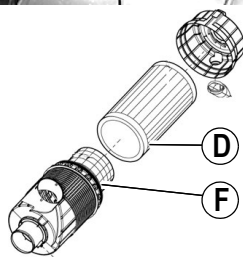

Fig. 169 : Air filter with safety cartridge
- In addition, every 3rd time the filter is replaced, carefully remove the safety cartridge fig. 169/F with slightly turning movements
- ☞ **Clean the dust valve fig. 169/E**